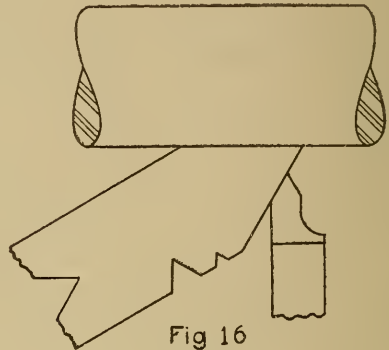

Fig 16
**Setting Tool.**—To set the tool so that both sides of the thread will have the same angle, the thread gauge is used as shown in Fig. 16. The tool should be set on a level with the center of the lathe.
To reset the tool in the lathe first get the angles correct, as shown in Fig. 16. Then revolve the lathe forward by hand to take up the slack in the gears and move the tool in close to the threads. If the tool is in a position so that it will cut too much off one side of the thread, it may be changed by disengaging the reversing gears with the lever R and turning the lathe by hand.